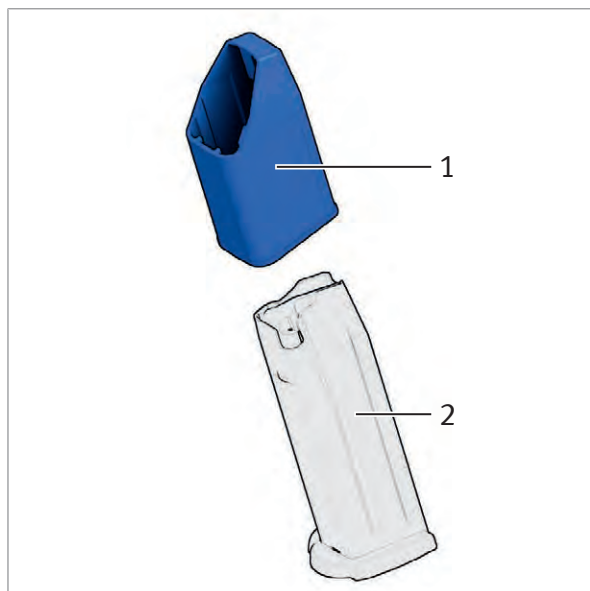

Fig. 41: Place loading aid on magazine
1. Place loading aid on magazine (*Fig. 41*).